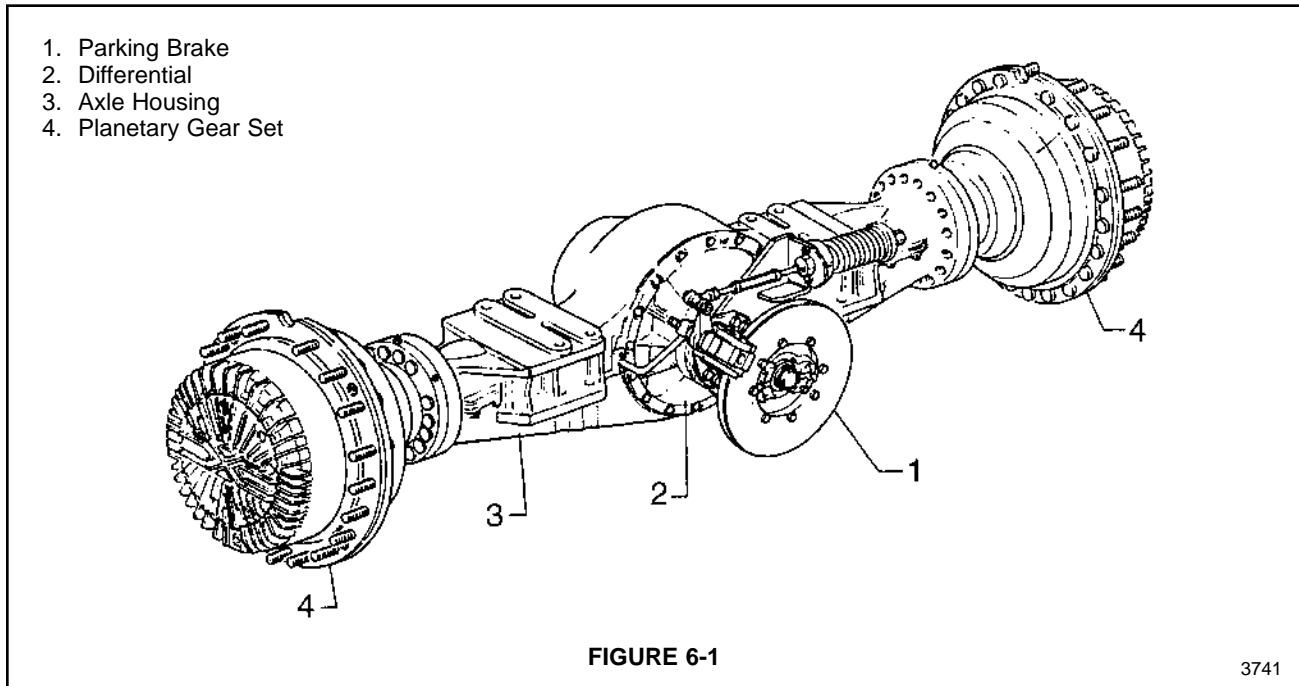

FIGURE 6-1
Drive shafts transmit torque from the transmission to the front and rear axles. Figure 6-1 illustrates the major assemblies for the front axle. The front and rear axles each contain a self locking differential (2). Each end of each axle contains a planetary